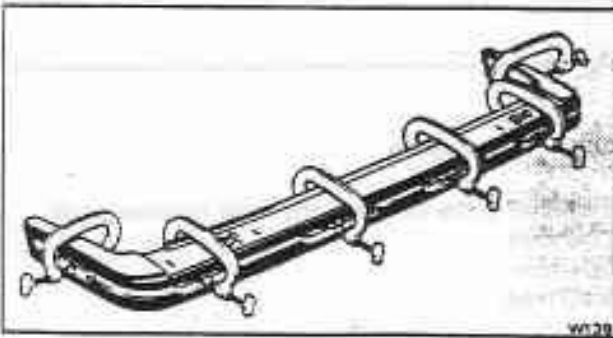

Fig. S14-5 Bonding a new finishing strip around the mouldings
9. Using wooden blocks and cramps (see fig. S14-5), tighten the finishing strip into position. Leave the cramps in position for one hour to allow the Apollo AX7006 adhesive to cure.